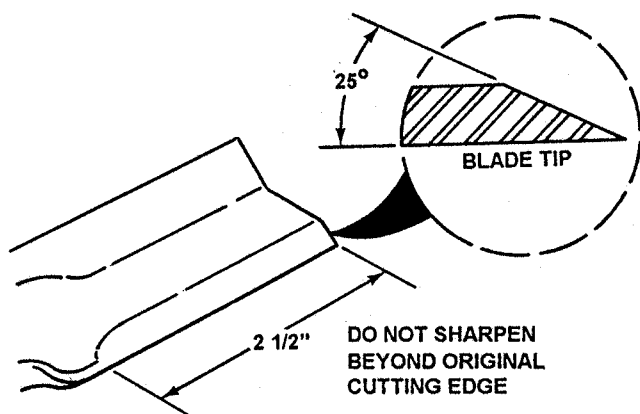

FIGURE 4.21
4. If the blade is in good condition, sharpen cutting edge at 25 degrees. DO NOT sharpen beyond the existing cutting edge. See Figure 4.21.